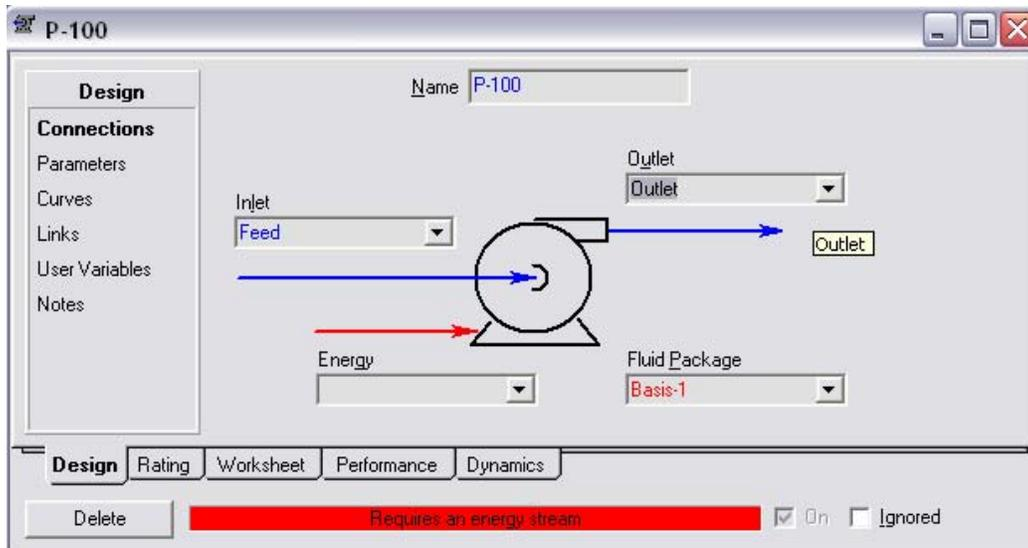
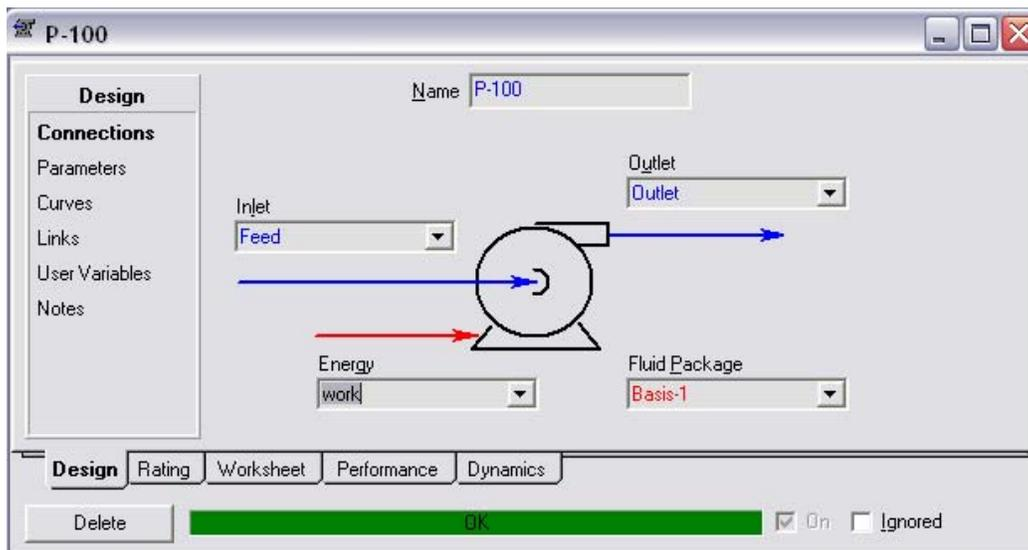

Figure 3-3: Connecting Pump with Streams
Figure 3-4: Creating Energy Stream for Pump
2. In the **Inlet**, scroll down to select *Feed* and **Outlet** in the **Outlet** as shown in Figure 3-3.
- From Figure 3-3, the warning red message bar at the bottom of the window indicating that we need an energy stream. To create an energy stream for the pump, click to the space in the **Energy**, and type *work*. This will create energy stream name *work* for the pump as shown in Figure 3-4.
- Once a pump has enough information, a green bar appears at the bottom of the window indicating that everything is “OK” (See Figure 3-4).